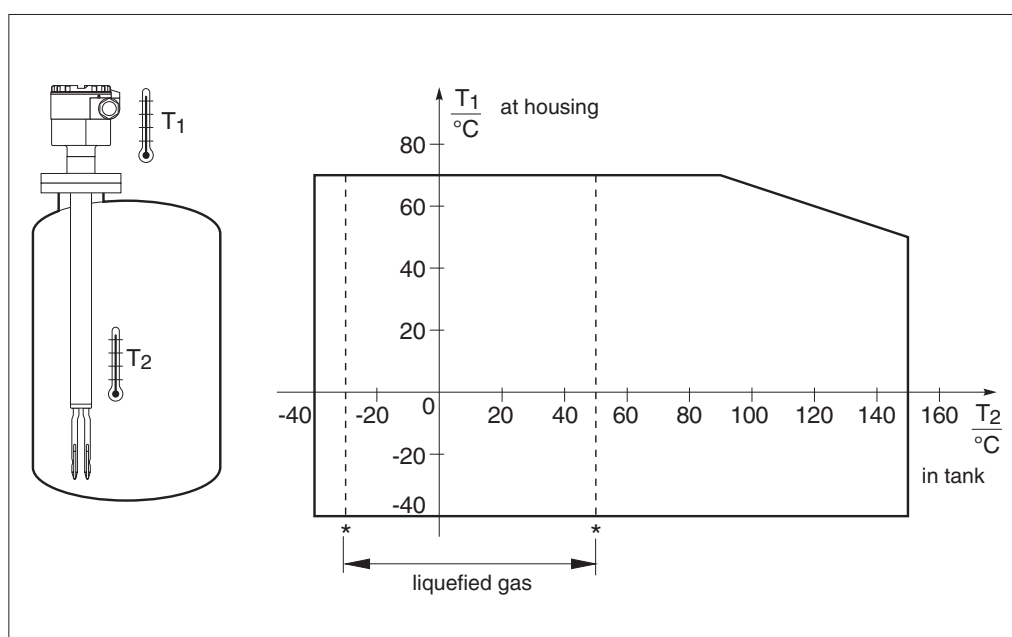

Fig. 24
- Ambient temperature for housing: see Fig. 24